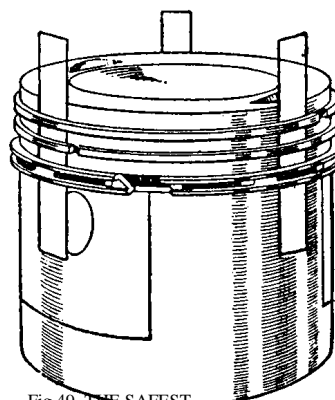

Fig.49. THE SAFEST METHOD OF REMOVING AND FITTING PISTON RINGS
6. Removing Piston Rings. The piston rings should not be disturbed more frequently than once every alternate decarbonizing, provided that engine compression remains good. The rings can be removed by "peeling off" with a small knife, but it is preferable to remove them with the aid of three strips of thin sheet-metal (about 1/4 in. wide) inserted beneath each ring as shown in Fig. 49. The rings, being made of cast iron, cannot safely be sprung out wider than the piston-crown diameter. If the rings are stuck with carbon, apply some paraffin. If this fails, use a proprietary ringremoval tool.
Clean the rings thoroughly on their inside faces, also the ends of the rings, and the slots in the scraper ring (see Fig. 49). Piston rings are made to very precise dimensions, and it is not generally practicable to fit oversize rings unless the piston is renewed also. Always fit genuine A.J.S. rings which are dimensionally correct. To reduce cylinder-bore wear, a chromium-plated top compression ring is fitted to 1953 and later engines.
If the cylinder barrel and piston have been removed, it may be advisable to scrape carbon off the inside of the piston but, unless the deposits are thick, this should not be done. Remove all carbon from the piston crown, but do not touch the skirt. Any attempt to scrape the piston skirt may have disastrous results. The piston-ring grooves, however, need attention. Clean these up thoroughly, but be very careful not to damage the actual metal comprising the sides of the grooves. Make sure that the holes in the groove for the scraper ring (see Fig. 49) are unobstructed.
15. Fitting Piston Rings. If these have been removed, fit them in their grooves, which should first be oiled. The safest method of fitting the piston rings is to use three strips of thin sheet-metal, as illustrated in Fig. 49. Fit the (bottom) scraper ring first, and then the two compression rings. Space the ring gaps evenly, that is, at 120 degrees to each other. It is assumed that the ring gaps are within the permissible limits (see page 87). If new rings are fitted, these are correctly "gapped" by the makers and are ready for immediate use.